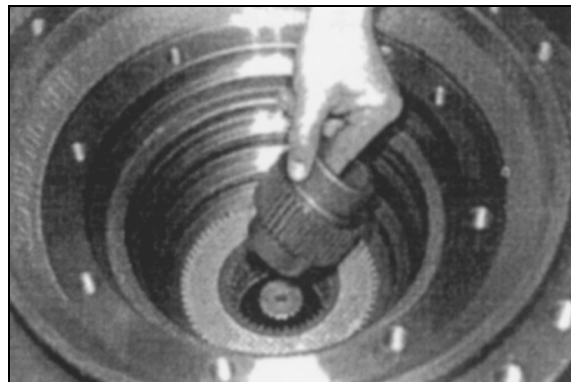

Figure 73
11. Remove brake shaft. Figure 73.